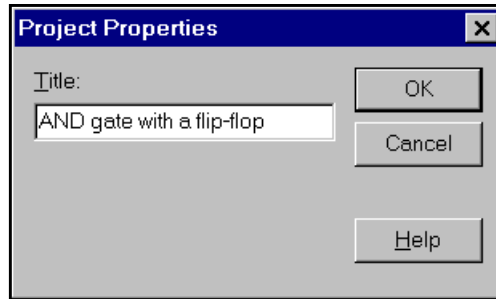

Figure 3-2. Project Properties Dialog Box
1. Double-click on the project notebook icon or project name **Untitled** that appears at the top of the *Sources in Project* window. The Project Properties dialog box (Figure 3-2) appears.